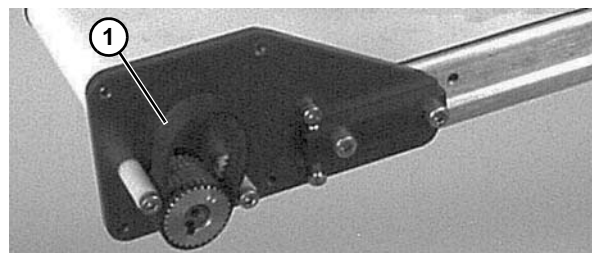

Figure 49
4. Remove timing belt (Figure 49, item 1).